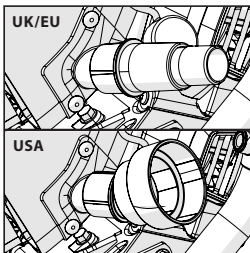

FIG. 14
- Push the connection hose from the extraction machine onto the extraction port using an appropriate adaptor. (Fig. 14)